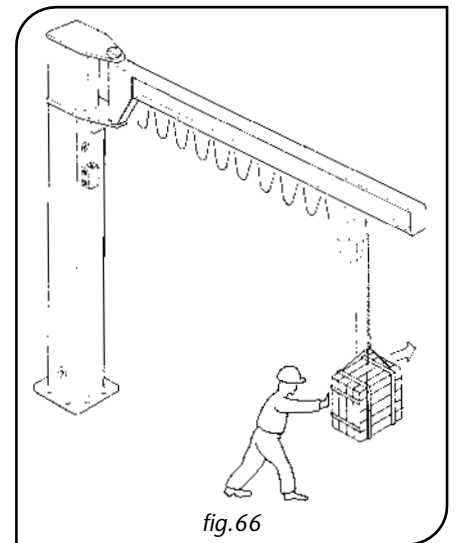

fig.66
- **ALWAYS** when moving manually push the load and avoid pulling it towards itself (fig. 66).